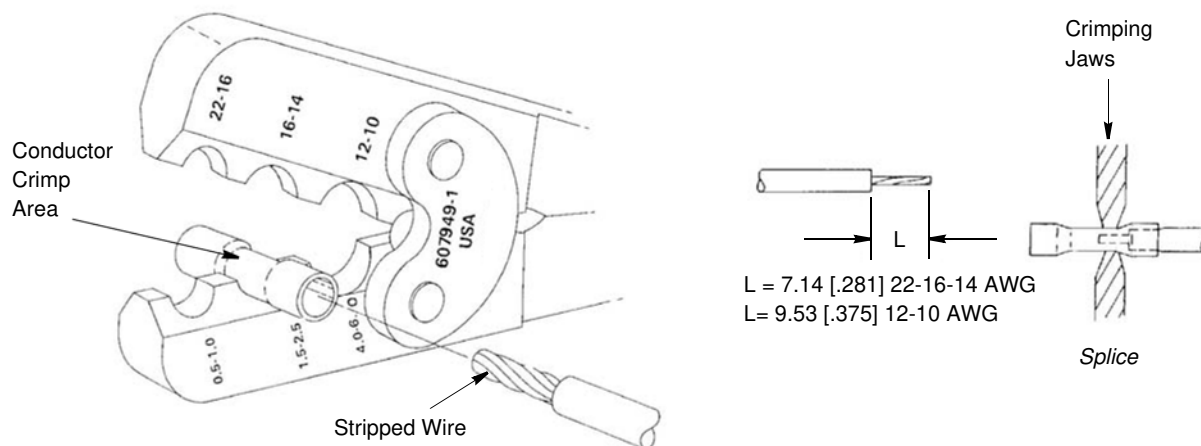

Figure 2
3. CRIMPING PROCEDURES (Figure 2)
3. Align conductor portion of terminal in the cavity as shown in Figure 2.
5. Insert a properly stripped wire (Figure 2) into the terminal until it bottoms.